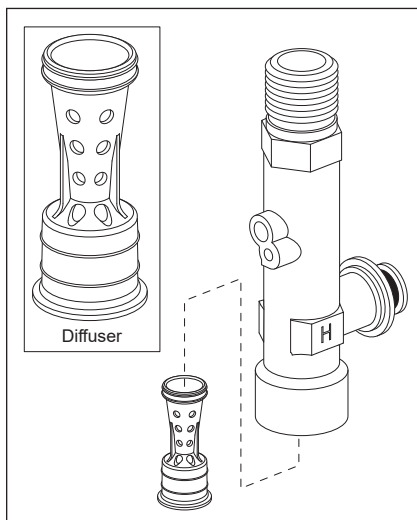

Figure 128 - Installing Diffuser to Outlet T-Nipple.
- 20** Locate the diffuser provided in the kit and insert it upright into the bottom orifice of the outlet t-nipple. Verify the diffuser seats snugly and does not travel (see Figure 128).